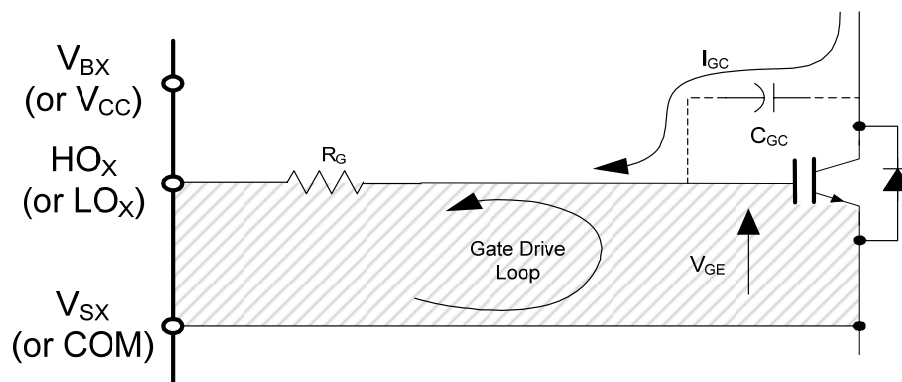

Figure 5: Antenna Loops
**Gate Drive Loops:** Current loops behave like antennas and are able to receive and transmit EM noise (see Figure 5). In order to reduce the EM coupling and improve the power switch turn on/off performance, the gate drive loops must be reduced as much as possible. Moreover, current can be injected inside the gate drive loop via the IGBT collector-to-gate parasitic capacitance. The parasitic auto-inductance of the gate loop contributes to developing a voltage across the gate-emitter, thus increasing the possibility of a self turn-on effect.